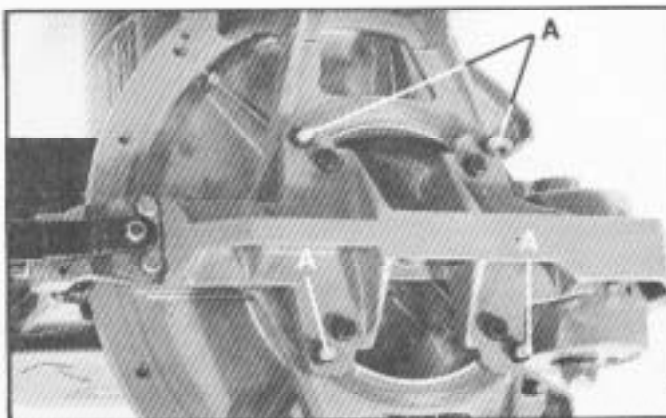

Fig. 30
If it ever becomes necessary to adjust the sliding fit between the movable table and the base, loosen locknuts that fasten the four nylon adjusting screws (A) Fig. 30, and with a screwdriver, turn the nylon adjusting screws (A) until a good snug sliding fit is obtained. Then tighten the four locknuts.